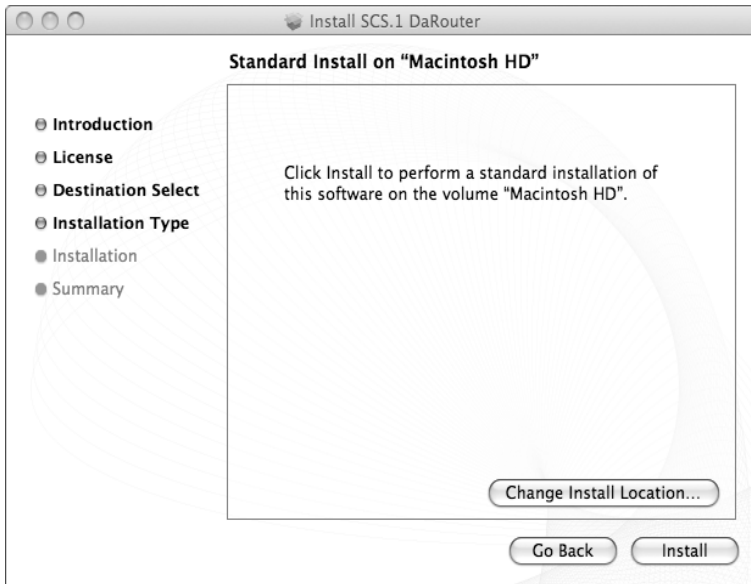

Figure 4.20
- Next, you can set the default path of the program. Click **Install** unless you want to install DaRouter to a specific destination. (Figure 4.20)